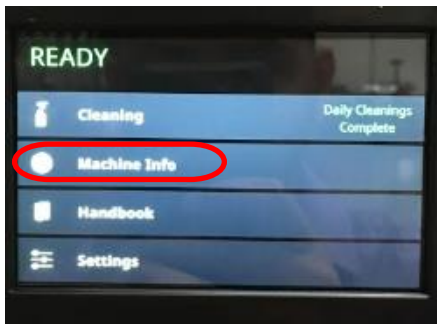

Figure 26a: Home Screen with Machine Info circled.
- a. Select Machine Info from the Home Page to see the pressure readings from the Pressure Transducers. **See Figure 26a and Figure 26b.**